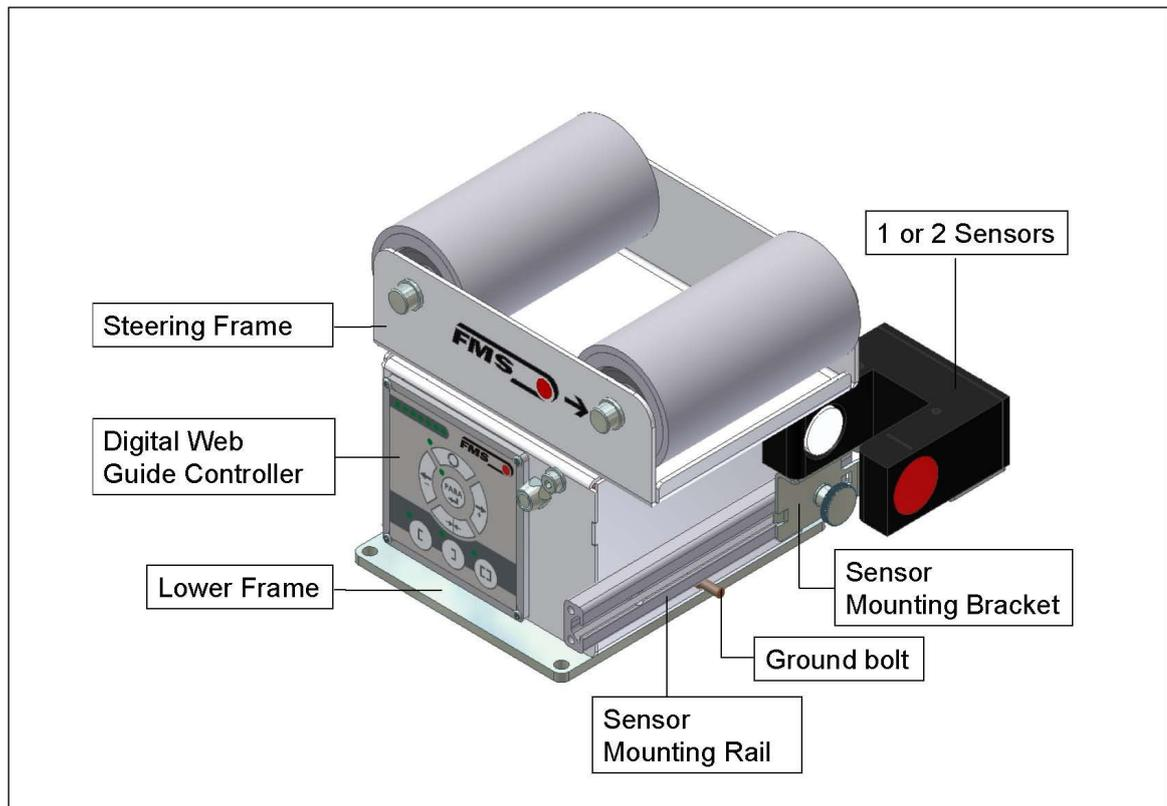

Fig. 1: Basic BKS015 system
**Figure 1** shows a typical web guiding system with its basic components. The sensors measure the position of the web edge and send this information as an analogue signal to the built-in web guide controller unit. The control compares the position feedback signal with the reference. If the difference of these two values is higher than the stored dead band value, the steering frame will be adjusted.
The steering frame must be connected to earth ground. Ensure that the base plate of the steering frame has direct contact with the grounded machine frame. In addition the ground bolt (see **Fig. 1**) must be connected to the machine earth.